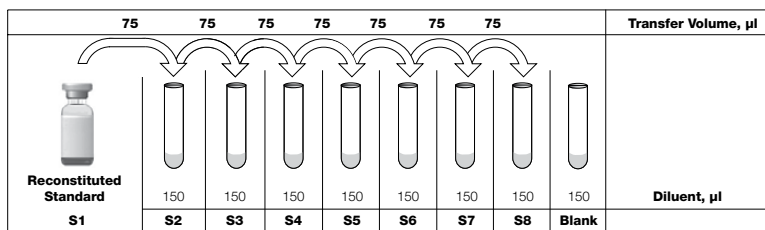

Fig. 3. Preparing a threefold dilution series with a single reconstituted standard.
- Add **150 µl** of the appropriate diluent to tubes S2–S8 and Blank. (Figure 3).
- Continue with 1:3 (threefold) serial dilutions as shown in Figure 3.